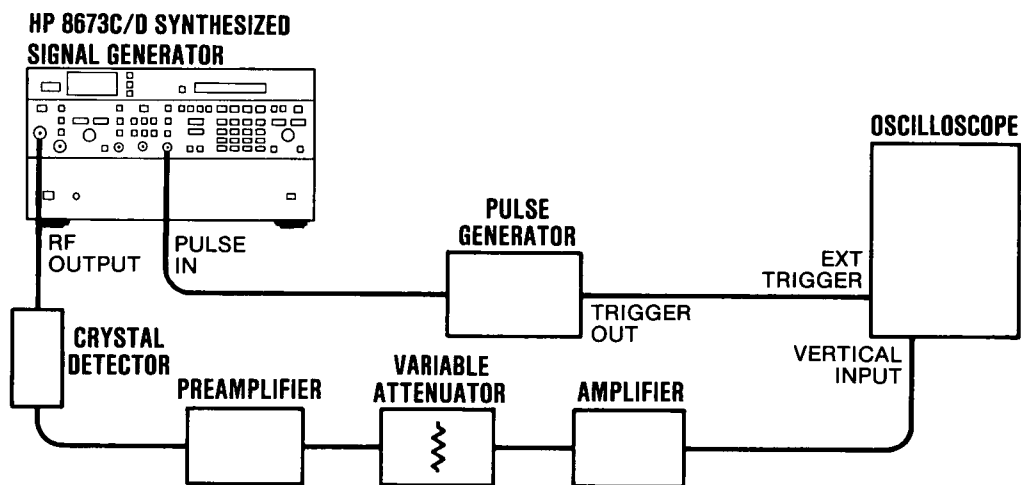

Figure 5-56. Pulse Amplitude Control Adjustment Test Setup
2. Connect the equipment as shown in Figure 5-56.